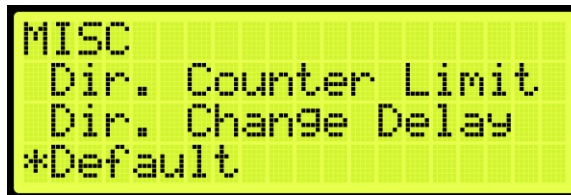

Figure 471: MISCELLANEOUS Menu – Default
- From the MISCELLANEOUS menu, scroll and select Default (See Figure 471).
2. From the MISCELLANEOUS menu, scroll and select Default (See Figure 471).